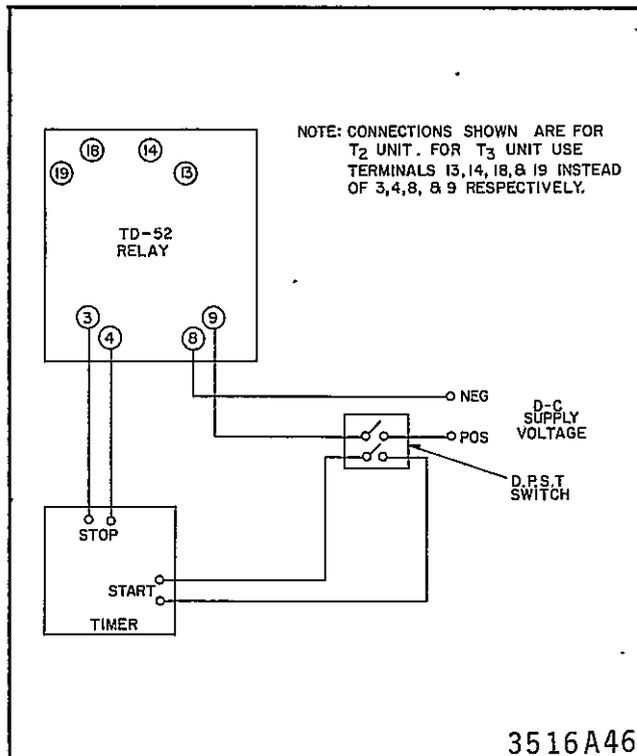

Fig. 5. Test Circuits for Type TD-52 Relay.
The first time delay, as measured with the test circuit shown in Figure 5 taken at 25°C. and rated voltage, will be within four milliseconds of its setting for settings of 0.2 seconds or less. For settings above 0.2 seconds, this accuracy will be $\pm 2\%$.
A timing check at minimum and maximum settings is recommended to insure that the relay is in proper working order. A recommended test circuit is shown in Figure 5.
2. Check the reference voltage circuit. This is done by measuring the dc voltage across the silicon power regulator, Z. Connect the dc voltmeter positive terminal to the rear terminal of R_S and the negative terminal to relay terminal 8 or 18. Apply rated voltage per the test circuit diagram, Figure 5. The Zener voltage should be between 11.0 and 13.0 volts for 24/32 volt relays, between 21.5 and 24.5 volts for 48/125 volt relays, and between 50 and 58 volts for 250 volt relays.